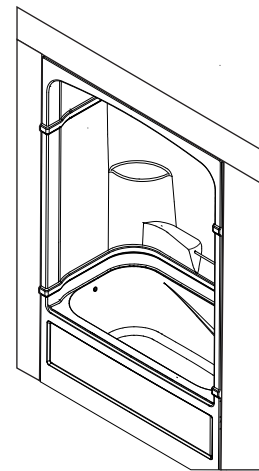

FIGURE 4
11. Drywall finish the framed alcove as shown in Figure 4.